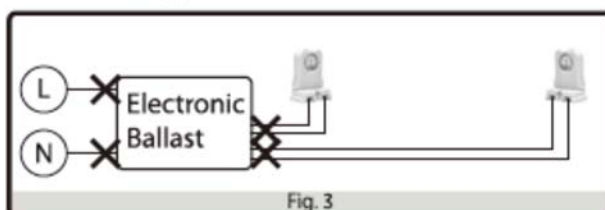
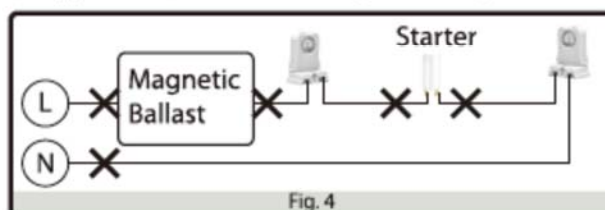

Fig. 3
Fig. 4
2. Cut all wires leading into and out of the ballast and starter (if applicable), as shown in Fig. 3 and Fig. 4.